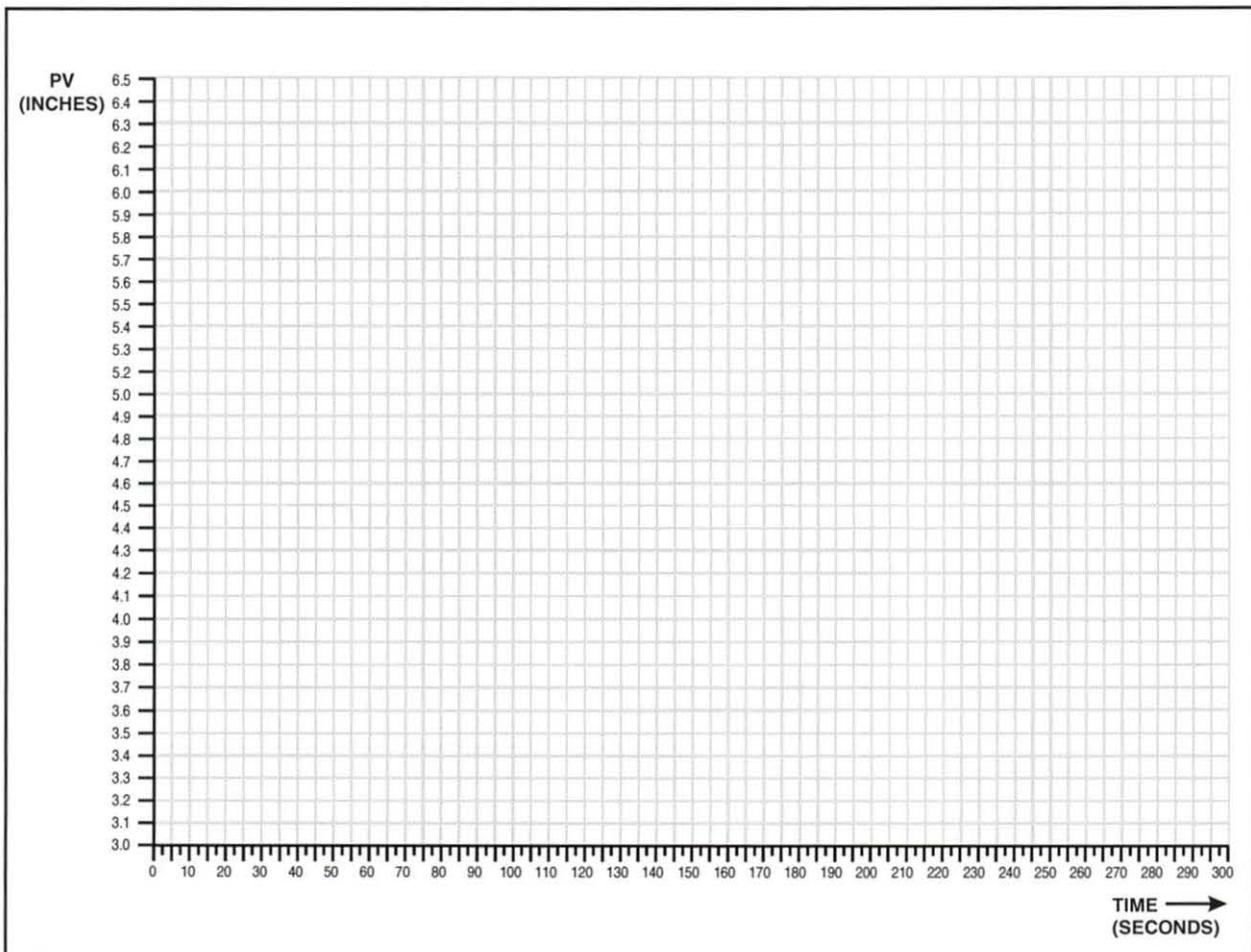

Figure 60. Graph of PV vs. Time
- A. Create a graph of PV vs. time, similar to figure 60, on a piece of graph paper.